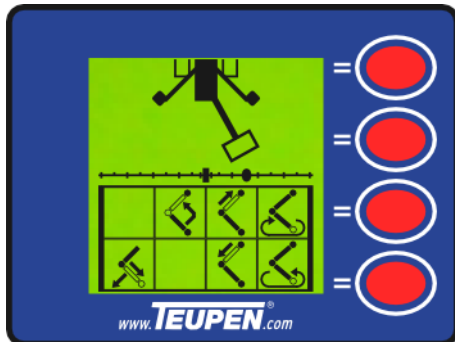

Fig. 133: Before transport position
- ⇒ On the display screen the display (Fig. 133) appears.